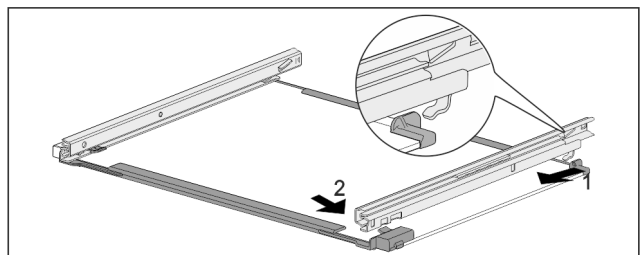

Fig. 83 Glass shelf with rails
- ▶ Hook in rail at the back. Fig. 83 (1)
- ▶ Hook in rail at the front. Fig. 83 (2)